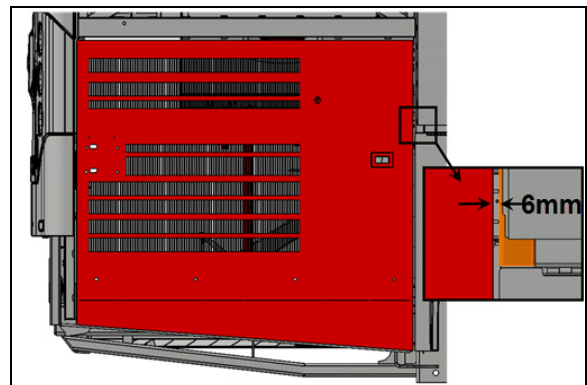

FIGURE 53
5. Check the gap between the door and the adjacent panel at the level of the upper attachment point of the arm on the door. The gap should be $1/4$ " (6 mm) (FIGURE 53).